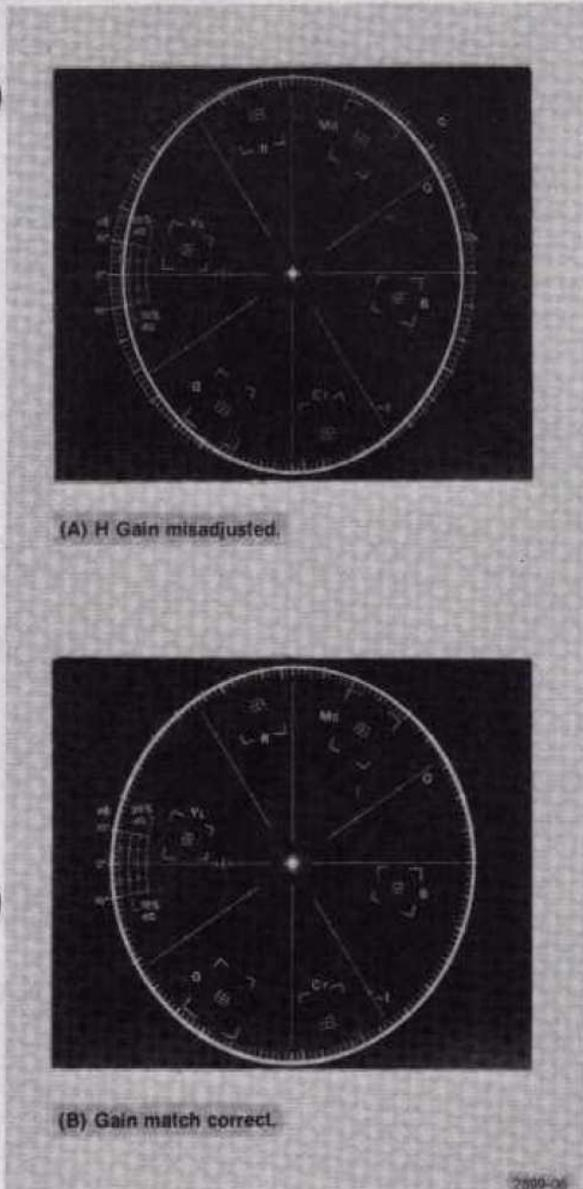
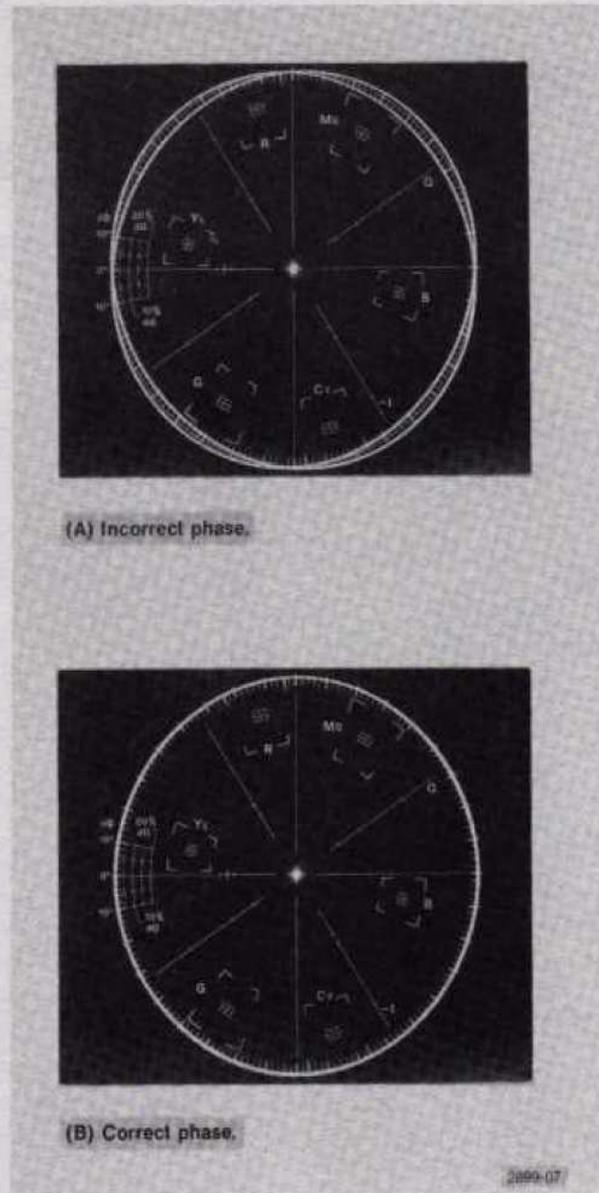

Fig. 2-6. 1420 — Checking the horizontal to vertical gain match.
Fig. 2-7. 1420 — Checking quadrature phase.
- a. Set the 1420 INPUT switch to SUBCARRIER (A INPUT). Adjust the 1420 GAIN control to set the termination of the subcarrier signal on the graticule edge. Push the TEST CIRCLE button. This feature can be used to check vertical to horizontal gain match (see Fig. 2-6) and quadrature phase (see Fig. 2-7).